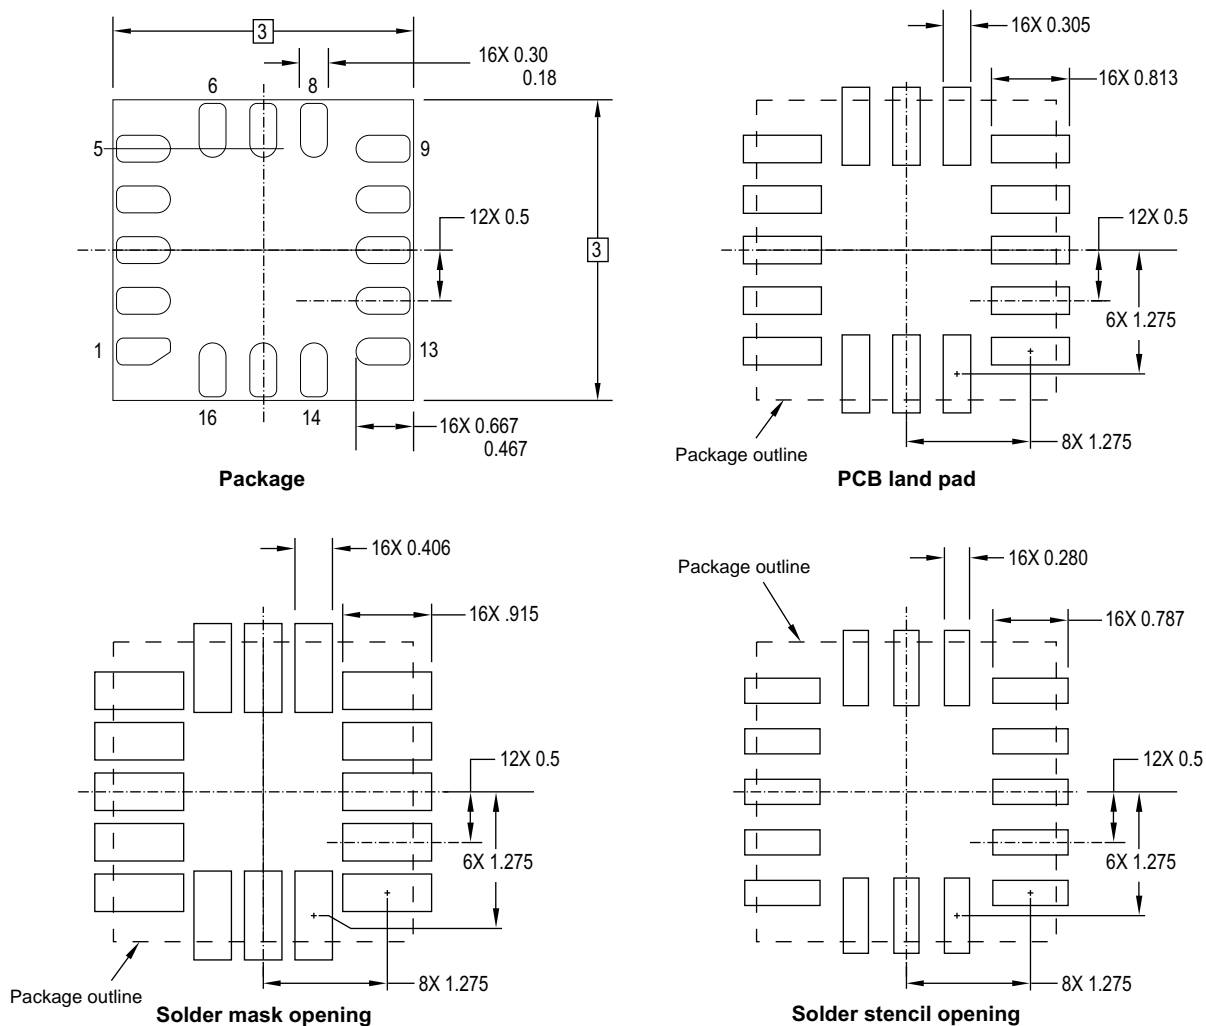

Figure 14. Footprint
The following recommendations are a guide to an effective PCB layout. See Figure 14 for footprint dimensions.
1. Do not solder down Exposed Pad (EP) under the package to minimize board mounting stress impact to product performance.
2. The solder mask should not cover any of the PCB landing pads, as shown in Figure 14.